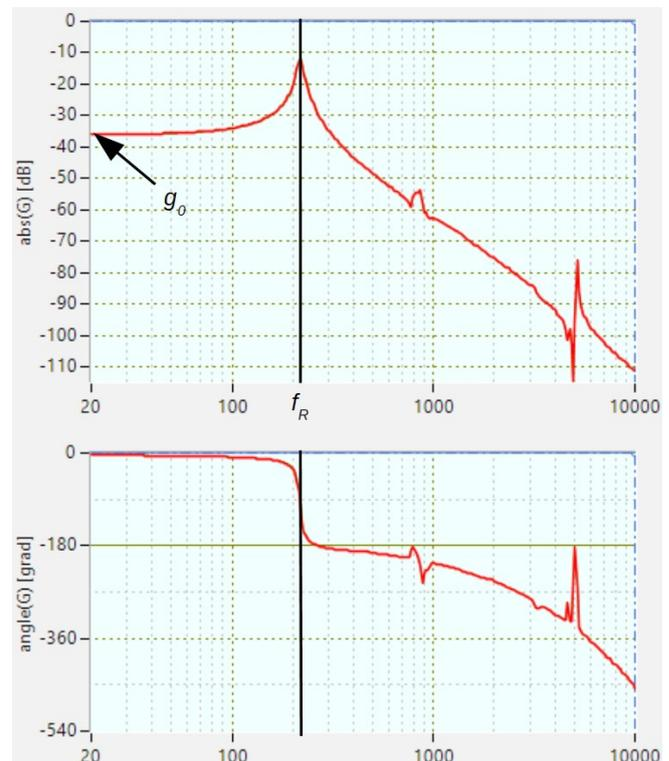

Figure 5: Typical Bode measurement of the rotational axis of a stiff gantry with a gain g_0 of -36dB and resonance frequency f_R of 218Hz.
Stiff gantries show a different characteristic for the rotational axis which resembles to a spring mass system (see Figure 5). Depending on the relation between the resonance frequency f_R and the desired bandwidth of the controller f_B , a different approach for the tuning has to be used:
- If the resonance frequency f_R is in range of the desired bandwidth f_B , the settings according to equation 7 are recommended as an initial approach. Use the **Additive, Gain** structure for the controller in this case. See Figure 5 on how to determine the values for the gain g_0 and resonance frequency f_R .